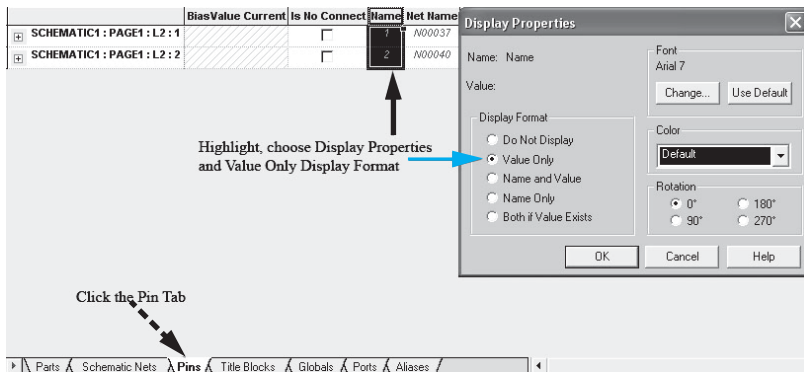

FIGURE 12.38 Steps to display the pin number of the inductor in PSpice.
- Next, click on the Pin Tab as shown in Figure 12.38 (shown by the dashed arrow), then highlight both Name “1” and “2” (by the solid arrow), and choose the “Display Properties.” Choose “Value Only” as the Display Format, click OK, and close the properties menu.